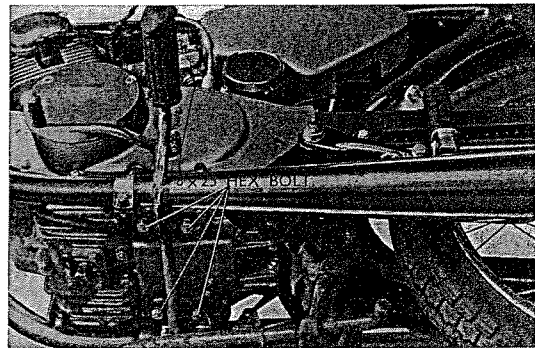

Fig. 4.48 Even tightening of muffler steps
3. Evenly tighten the muffler with four 8×25 hex bolts to the underside of the crankcase. (Refer to Fig. 4.48)